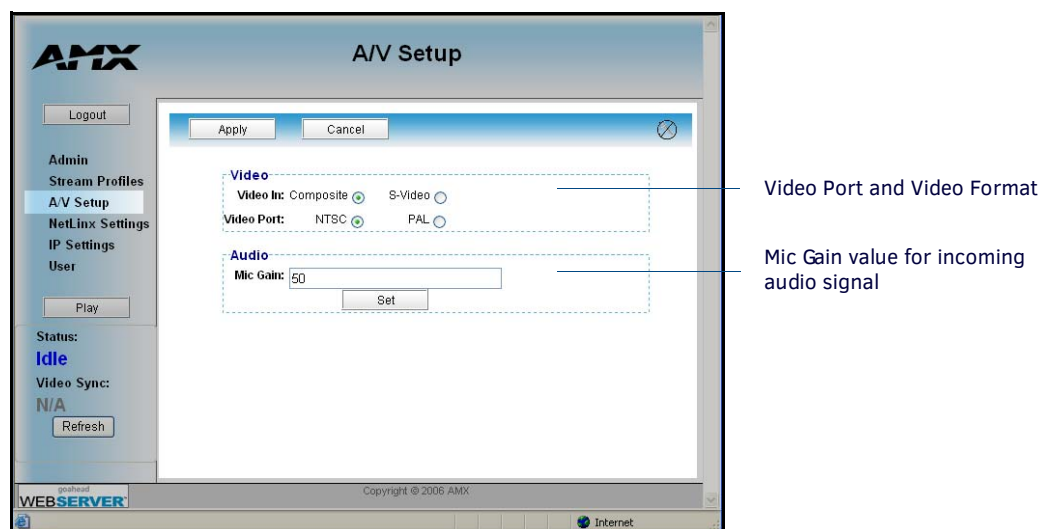

FIG. 134 A/V Setup page
2. Access the A/V Setup page (FIG. 134) by clicking the **A/V Setup** link from within the Navigation frame. This page provides the user with the ability to select the source of the incoming video signal (from either the rear Composite or S-Video port), the format of the incoming video (NTSC/PAL), and the gain given to the incoming audio signal.